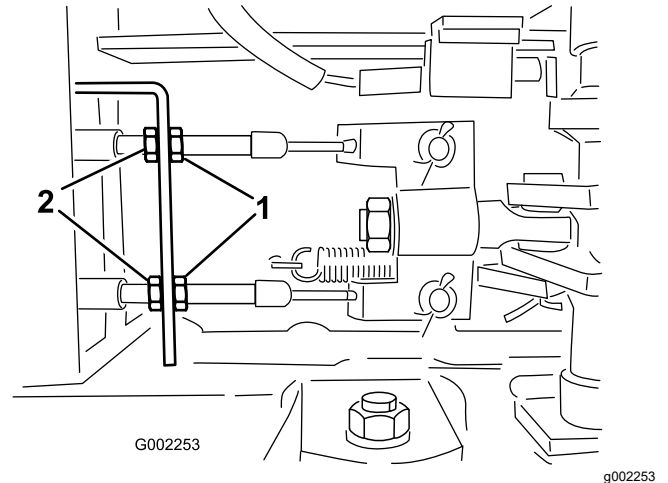

Figure 138
5. Loosen the front jam nuts on the brake cables under the front end of the sprayer (Figure 138).
6. Tighten the rear jam nuts equally until the brake pedal moves between 1 to 2 cm (1/2 to 1 inch) before you feel resistance (Figure 138).